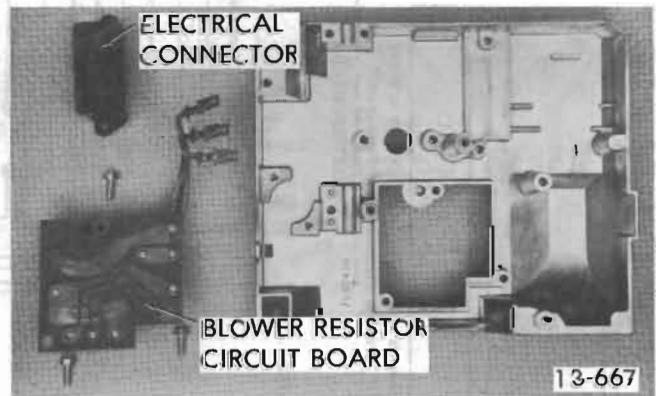

Figure 13-132 Blower Resistor Circuit Board - Removed
2. Remove three (3) retaining screws and blower resistor circuit board. Take care that single ball bearing is kept located in bearing cup on circuit board.
3. Remove three (3) electrical terminals from programmer electrical connector body.
4. To replace, reverse removal procedure. See Figure 13-132.